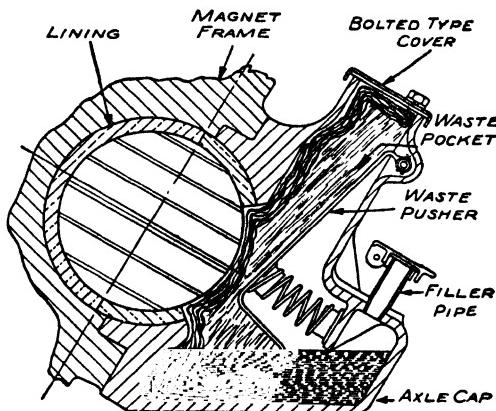

Fig. 14. Large Oil Capacity Axle Cap with Waste Pusher for Traction Motor
**Motor Axle Bearings.** Cross-sectional view of an axle cap similar to this type of bearing is shown in Fig. 14.
Axle Bearing .....	Fig. 14